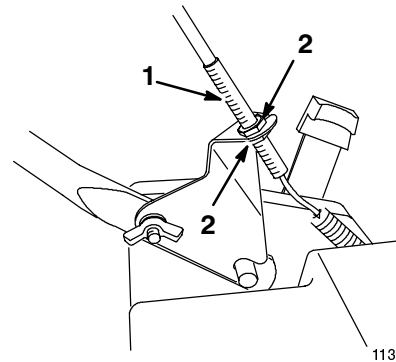

Figure 24
- Adjust the jam nuts at the handle bracket so that the cable is tight, but the spring is not stretched (Fig. 24).